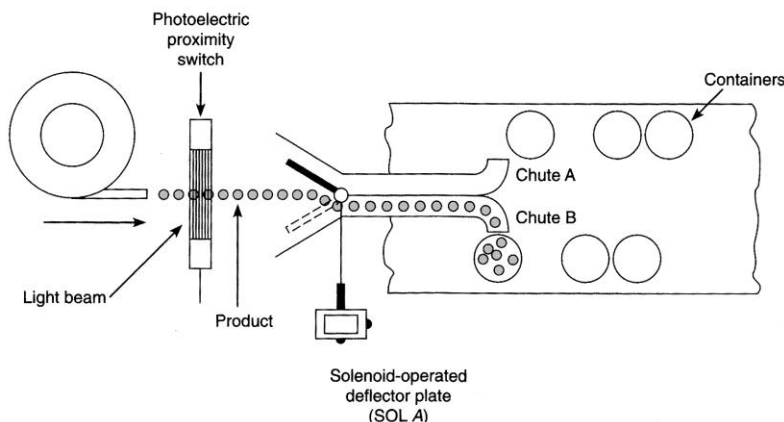

Figure 8-21 Control process for assignment 17.
17) Design a PLC program and prepare an I/O connection diagram and ladder logic program that will correctly execute the packaging process illustrated in Figure 8-21. Enter the program into the PLC, and prove its operation. The operational sequence can be summarized as follows: